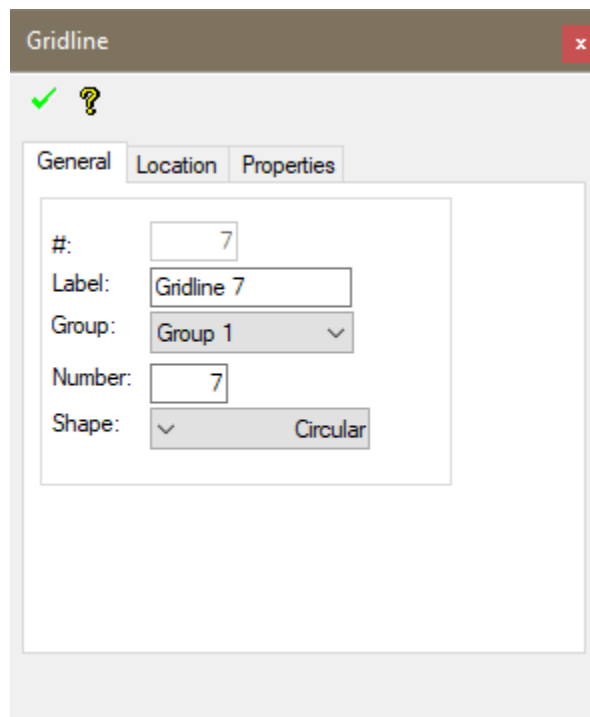

Figure 2-5
- Double Click on the upper most vertical gridline. This should bring up the *Gridline* properties window as shown in **FIGURE 2-5**.